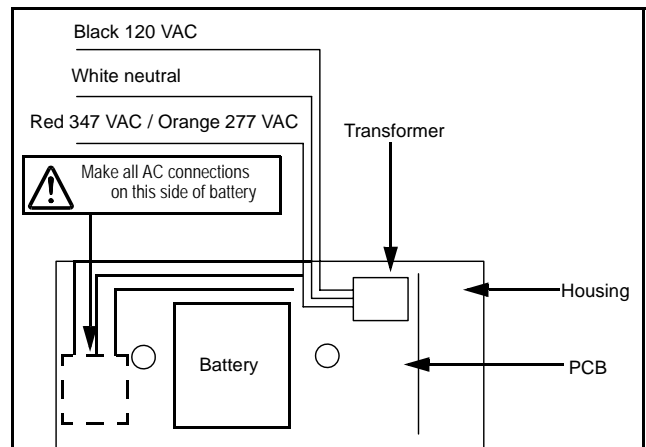

Figure 4
7. Make the proper connections. The system can accept input voltages of 120/347VAC or 120/277 VAC (optional) (see fig. 4).
**!** Route entry wires to avoid contact with the transformer, battery terminals and charger PCBA. Refer to figure 4.